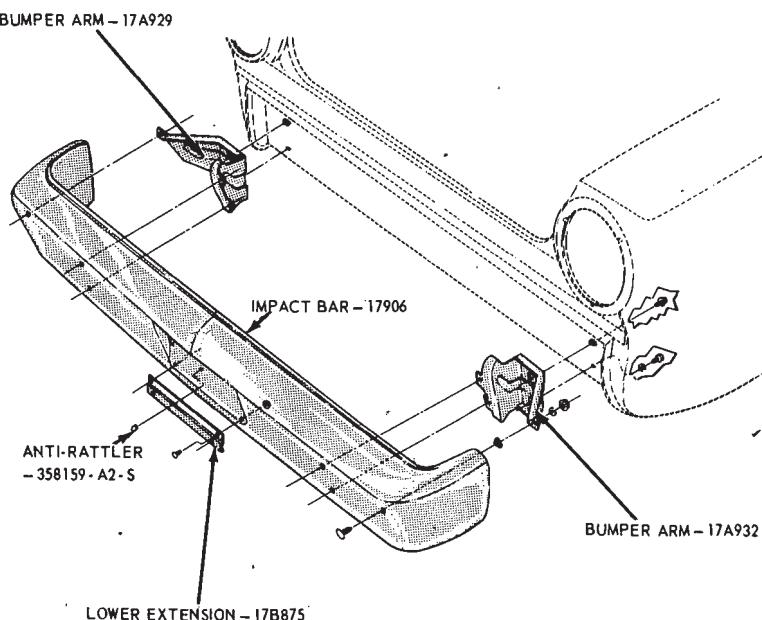

FIG. 8—Falcon Rear Bumper Installation
3. Remove the four bumper arm-to-frame retaining bolts (Fig. 8), and remove the bumper assembly.